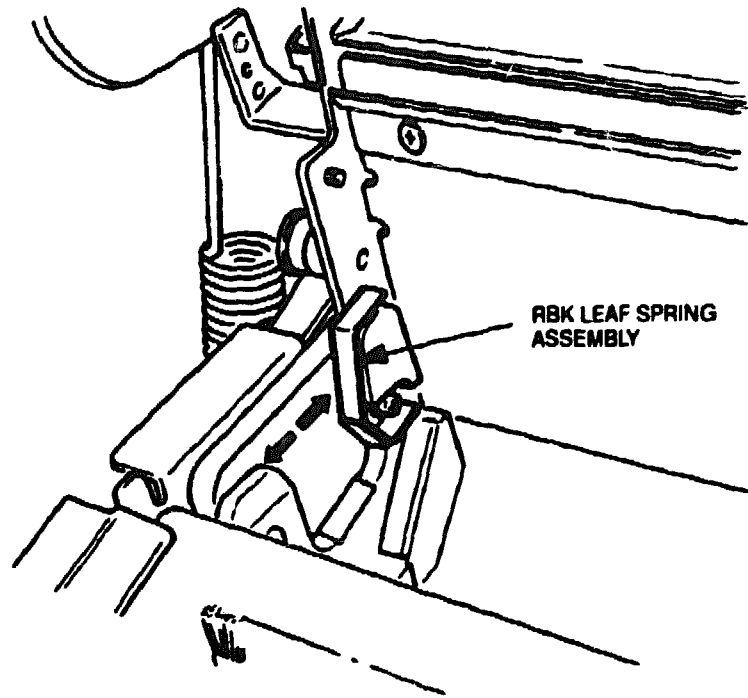

Figure 4-15 RBK Leaf Spring Assembly Adjustment
6. If the amount of tension measured in step 4 is less than 30 g, bend the RBK leaf spring assembly shown in Figure 4-15 forward (toward the control panel). If the measurement is larger than 100 g, bend back the RBK leaf spring assembly toward the rear of the printer.